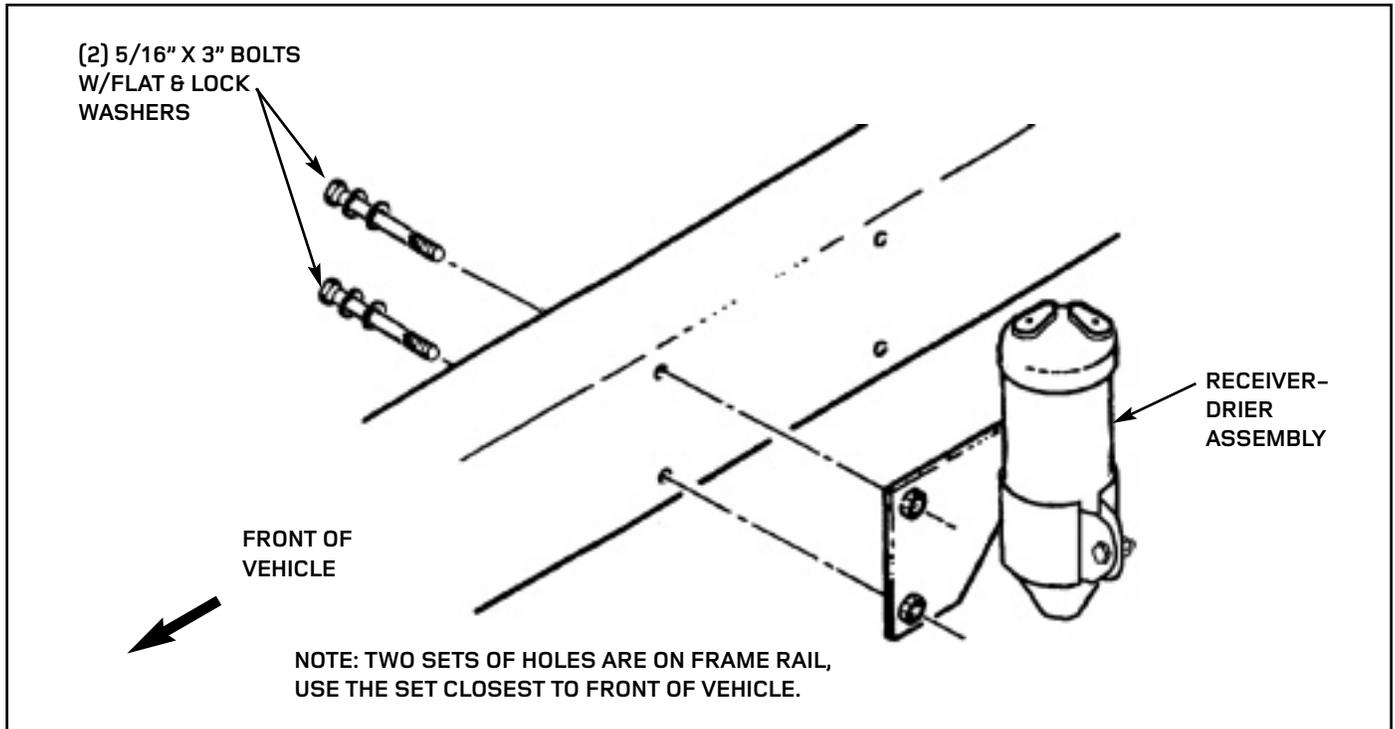

FIGURE 4
24. Install the receiver-drier and bracket assembly to the RH frame rail using two (2) 5/16 x 3" bolts with flat washers and lock washers (see figure 4, page 5).